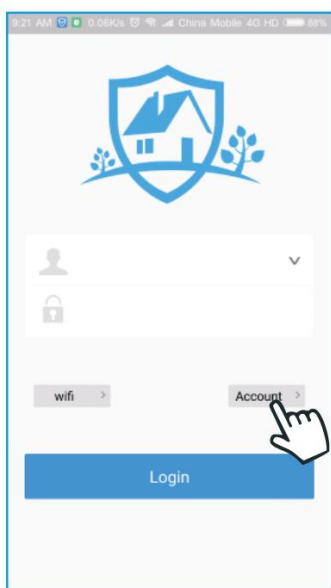
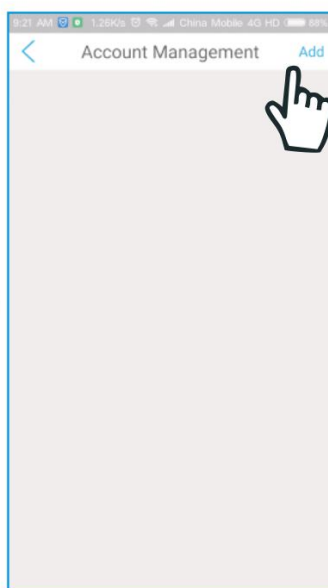
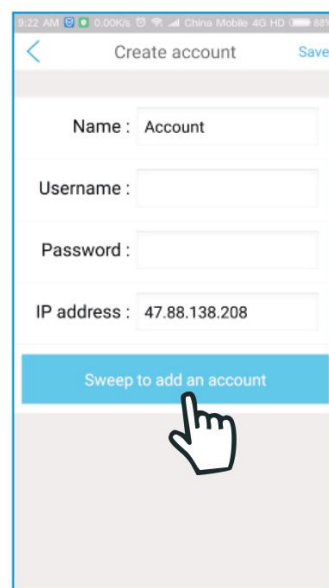

Figure 8-1
Figure 8-2
Figure 8-3
- B. Click "Account" - "Add" - "Sweep to add an account" - "Scan QR Code of panel"; (as shown in Figure 8-1, Figure 8-2, Figure 8-3, Figure 8-4)